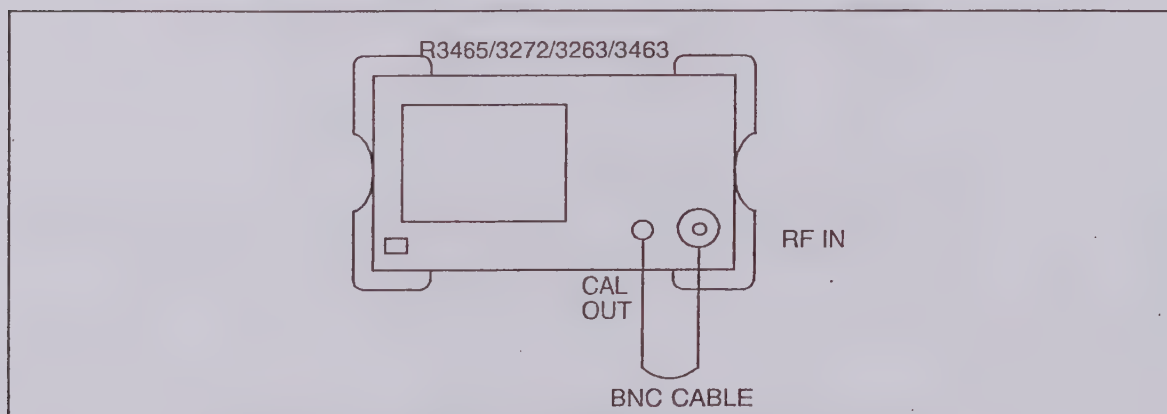

Figure 1-6 Resolution BW Switching Uncertainty Test Setup
- (1) Connect the R3465/3272/3263/3463 CALOUT to the RF IN as shown in Figure 1-6.
- (2) Press the SHIFT , PRESET , CAL 7 , EACH